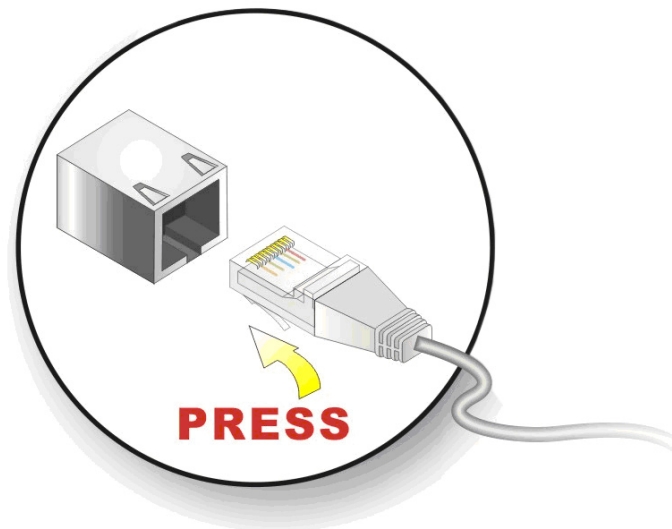

Figure 5-18: LAN Connection
Step 2: **Align the connectors.** Align the RJ-45 connector on the LAN cable with one of the RJ-45 connectors on the 2808130 . See **Figure 5-18**.